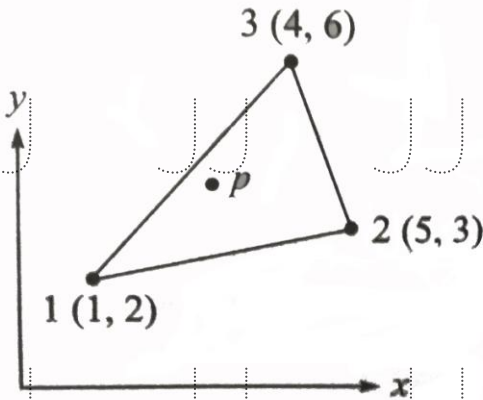

Figure 3
6. Derive the area and strain displacement matrix for the triangular element and thus calculate the same for the triangle as shown in figure 3. [10]